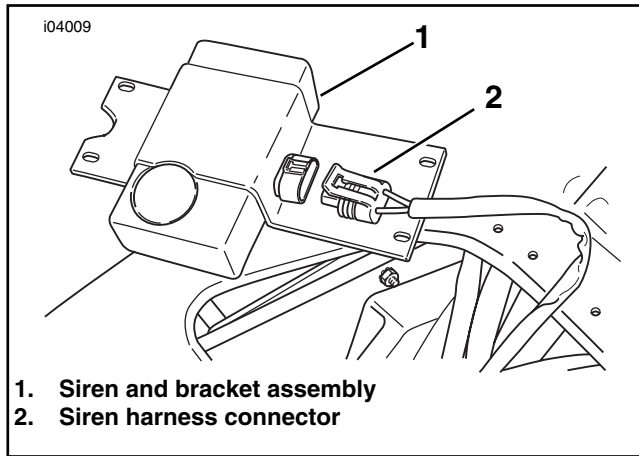
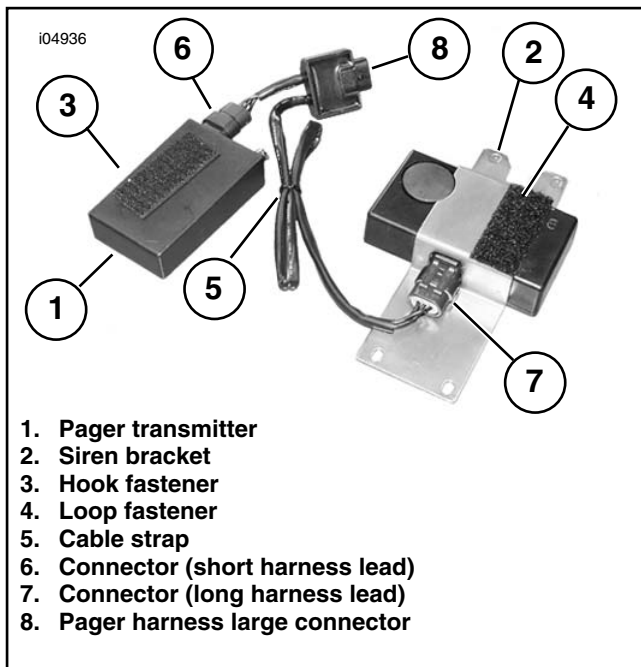
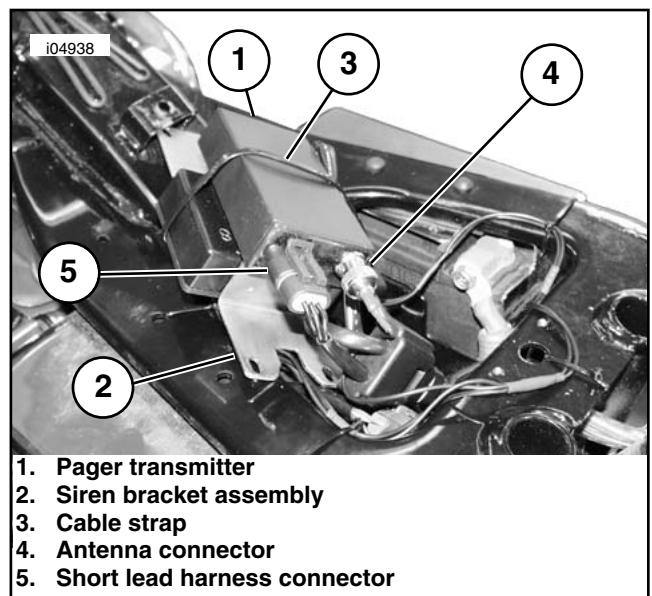

Figure 2. Disconnect Siren Harness Connector
Figure 3. Install Pager Transmitter to Siren Bracket (2003 and earlier)
Figure 5. Connect the Antenna to the Pager Transmitter (2003 and earlier)
6. See Figure 2. Disconnect the siren harness connector from the siren.
7. See Figure 3. Clean the mounting surfaces of the pager transmitter (1) and siren bracket (2) using alcohol or other suitable cleaner, and apply the hook (3) and loop (4) fasteners.
8. Connect the connector (6) from the short harness lead to the pager transmitter.
9. **If the pager is being used as a silent paging system only (no siren installed):** See figure 2. Locate the security connector - main harness (siren harness connector). Remove the dust cap from the harness (2) and (See Figure 3.) connect to the Pager harness large connector. Connect the dust cap to the Pager harness connector - long harness lead (7). Bundle the pager harness using a cable strap and secure the harness to the frame in an area away from moving parts. Proceed to Step 12.
10. Connect the connector (7) from the long harness lead to the siren.
11. Bundle the excess harness using a cable strap (5).
13. See Figure 5. Secure the pager transmitter (1) to the siren bracket assembly (2) using a cable strap (3).
14. Connect the antenna connector (4) to the pager transmitter.
15. See Figure 2. Connect the siren harness connector (2) to the large connector on the pager harness.